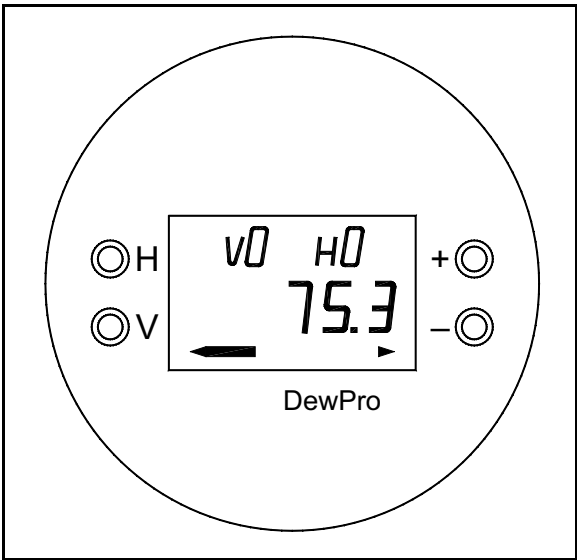

Figure 15: MMR31 Display
The MMR31 display (see Figure 15 below) continuously shows the current matrix location using the vertical (V) and horizontal (H) coordinates to designate the row and column, respectively. The bar graph represents the output current in an analog fashion.